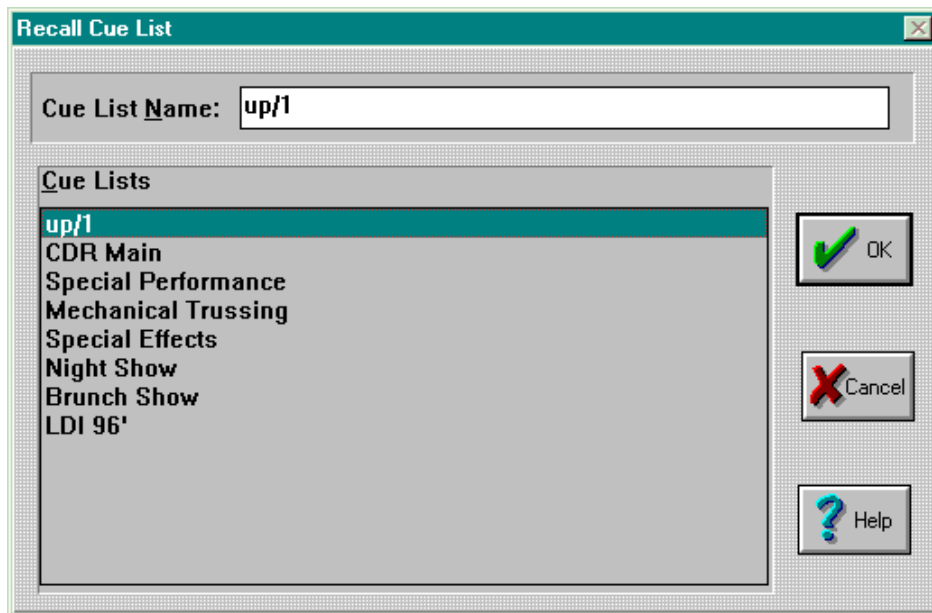

Figure 8.13. Recall CueList Dialogue Box
2. Press the <RECALL> key in the MEMORY group to bring up the **Recall a CueList** dialogue box. Alternately, select **Recall** from the **Object** drop-down menu. Refer to Figure 8.13.